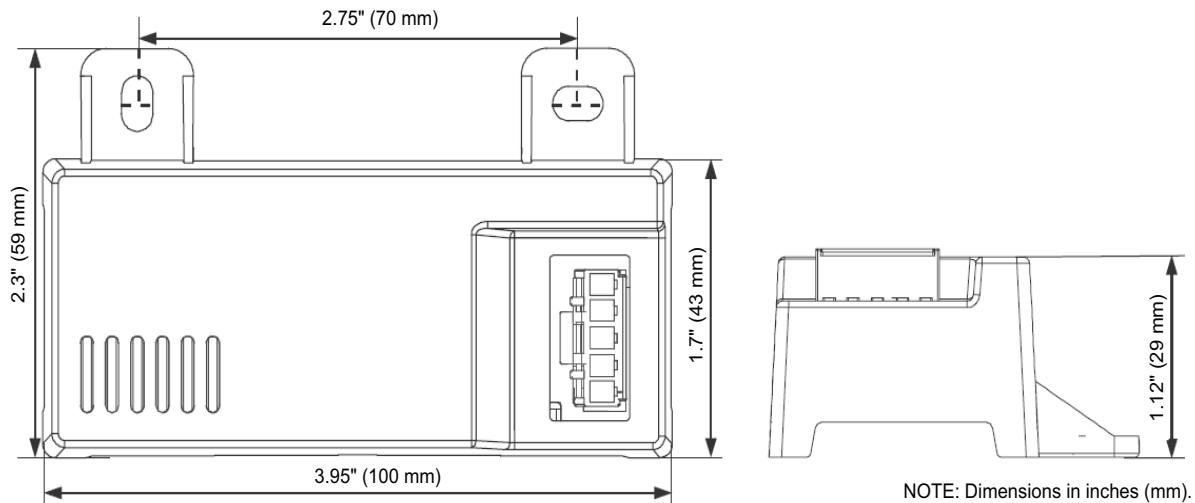
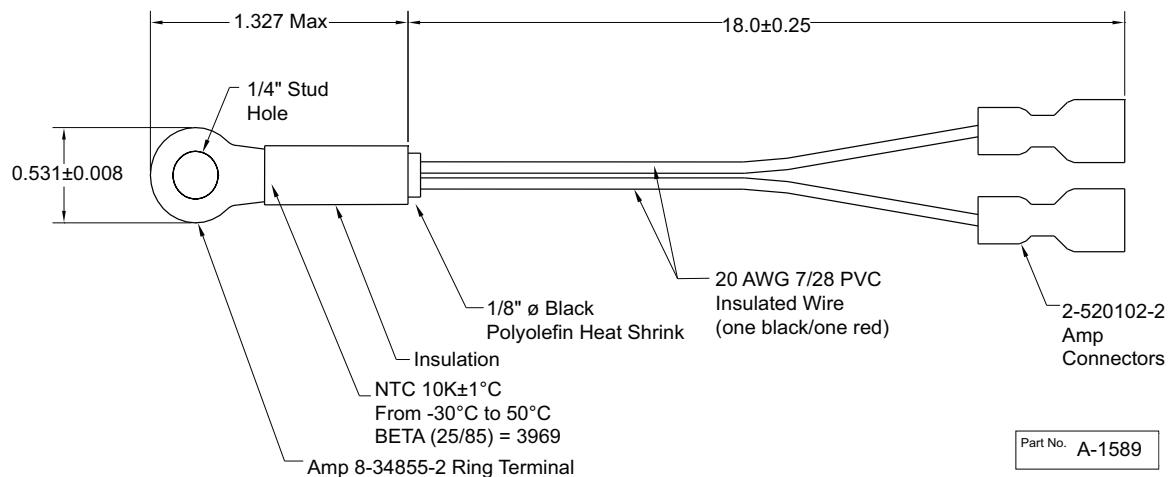
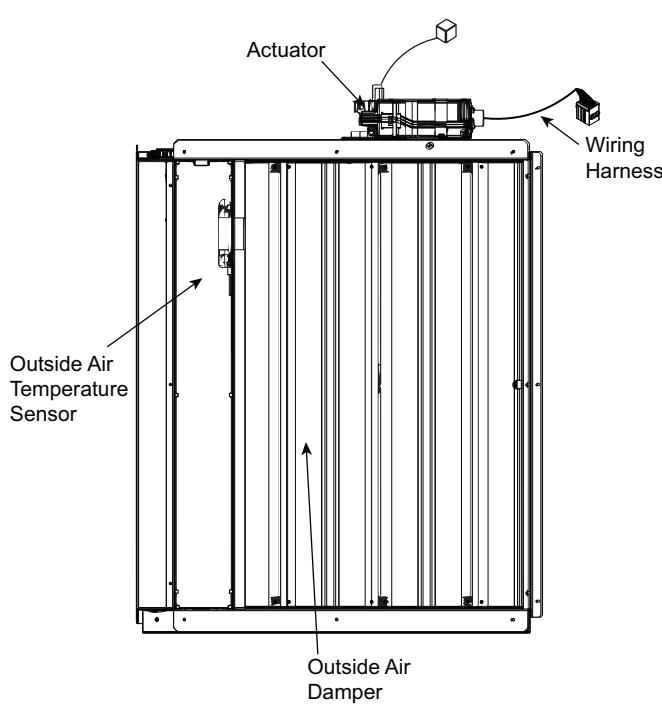

Fig. 70 — HH57LW001 Dimensional, Connection and Switching Information
Fig. 71 — HH79NZ039 Dry Bulb and Mixed Air Sensor Wiring
Fig. 72 — EconomizerONE Component Locations (CRECOMZR108A00 Shown)
When using the HH57LW001 enthalpy sensor (see Fig. 70) for outside air changeover, the existing HH79NZ039 dry bulb sensor (see Fig. 71) must be removed. The enthalpy sensor will be mounted in the same location as the dry bulb sensor (see Fig. 72). When the enthalpy sensor's OA (Outside Air) temperature, enthalpy, and dew point are below their respective setpoints, the outside air can be used for free cooling. When any of these are above the setpoint, free cooling will not be available. Enthalpy setpoints are configurable and create an enthalpy boundary according to the user's input. For additional details, see Fig. 73-74 and Table 25.
The optional enthalpy control sensor (P/N: HH57LW001) communicates with the POL224 economizer controller using the 5-wire harness, 48TC005213. The HH57LW001 sensor can be used as a single outside air enthalpy, a differential return enthalpy, or a differential return temperature sensor. Refer to the base unit control wiring diagrams found earlier in this book to wire the HH57LW001 enthalpy sensor for each option. Use Fig. 70 and Table 27 on page 55 to locate the wiring terminals for each enthalpy control sensor.
Economizers are shipped standard with an HH79NZ039 outside air dry bulb sensor (see Fig. 71). System default setting (high temp limit) is 63°F (17°C) and has a range of 48°F to 80°F (9°C to 27°C). Sensor is factory installed on economizer.
If installing the optional HH57LW001 enthalpy sensor, the HH79NZ039 dry bulb outside air sensor must first be removed. Wire sensor to harness 48TC005213 and the (5) wires from the harness to the EconomizerONE harness in the return air chamber. Harness 48TC005213 has a 5-pin plug that connects directly to the HH57LW001 enthalpy sensor. Refer to the base unit control wiring diagrams earlier in this book for wiring connections. Refer to Fig. 70 and Table 27.